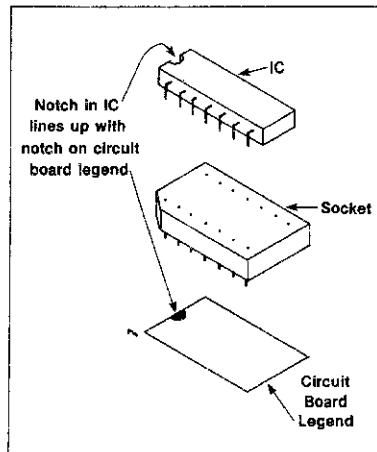

Figure 3a
- Use an IC socket. This simplifies replacement should the IC ever fail; also, you don't have to worry about frying the part through incorrect soldering techniques (see Figure 3a).